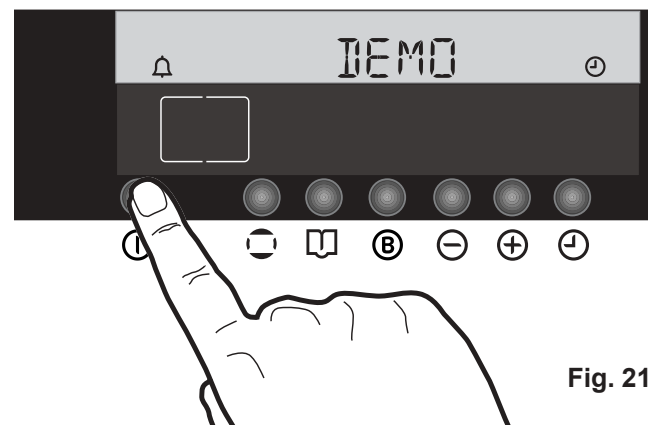

Fig. 21
2. When you press button **(I)** to switch on the oven, the message "DEMO" appears on the upper section of the display (Fig. 21). You can then select any cooking function, but the oven will not heat up. The thermometer symbol will come on , but it will not flash nor rise.